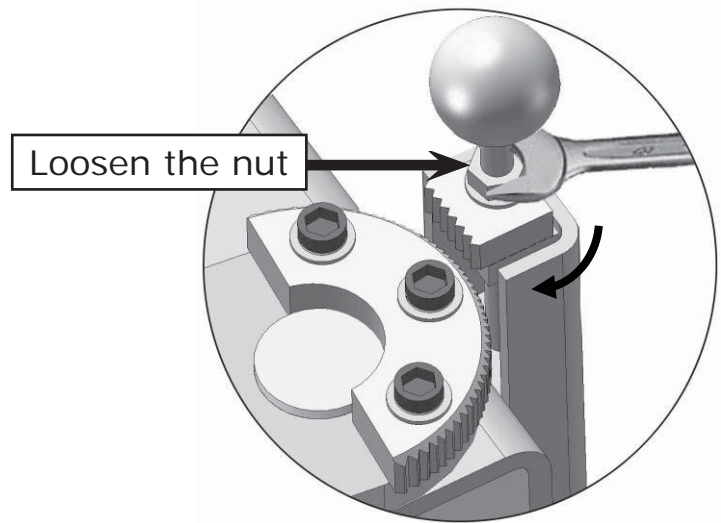

Fig. 24
2. Lower the carriages down to the lowest position and loosen the nut (See Fig. 24)